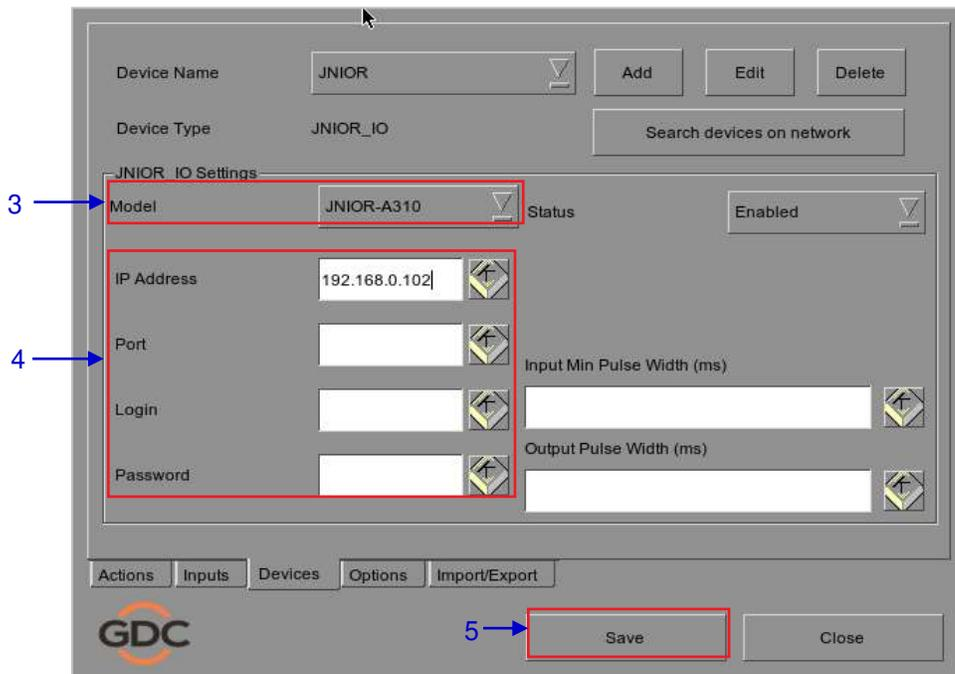

Figure 46 Automation settings for JNIOR device.
3. Enter the IP address of the JNIOR device (see Figure 46).